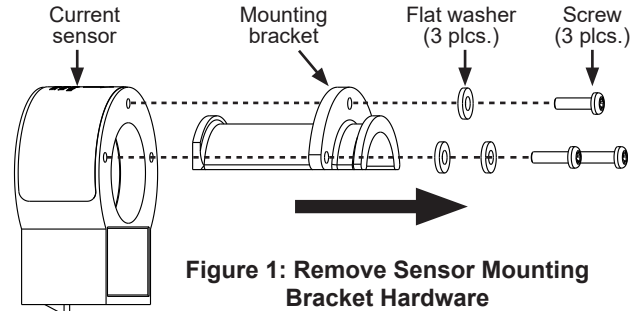

Figure 1: Remove Sensor Mounting Bracket Hardware
1. Prepare current sensor for mounting by removing the three screws and flat washers that secure the mounting bracket to the sensor. Keep parts for reinstallation. See Figure 1.